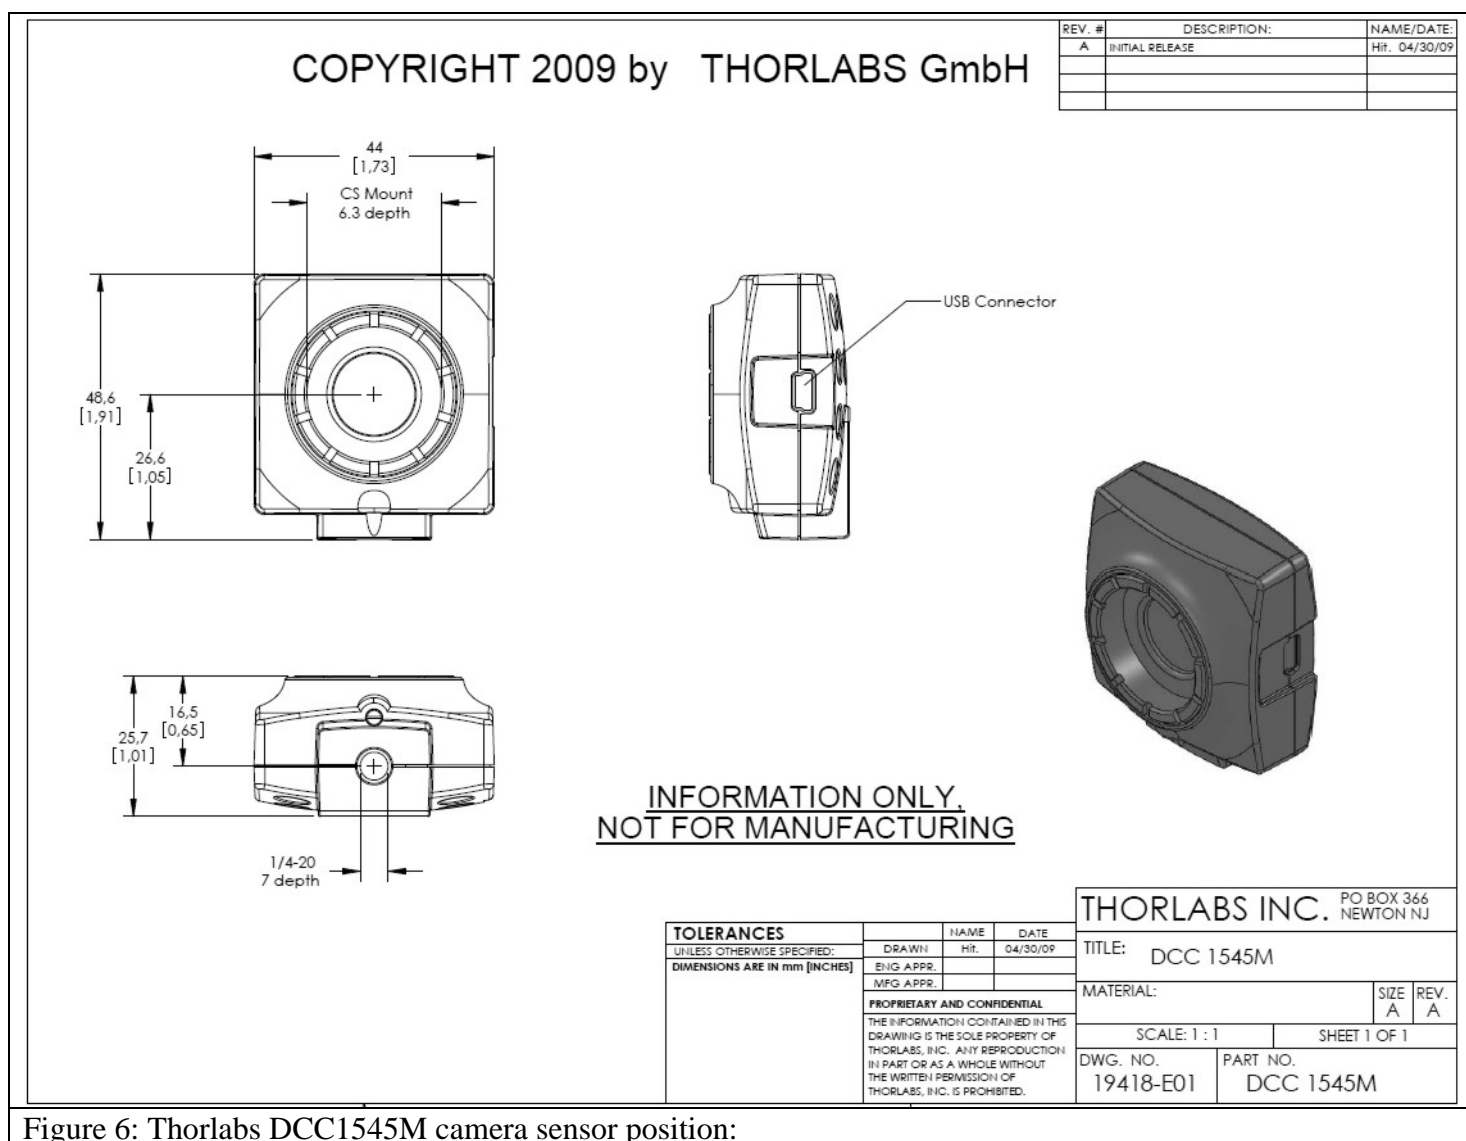

Figure 6: Thorlabs DCC1545M camera sensor position:
2. Lens to front of camera distance. Adjust this to the object distance by adding the camera sensor to camera front spacing. The sensor is 16.5 mm back of the camera front – see Fig. 6)